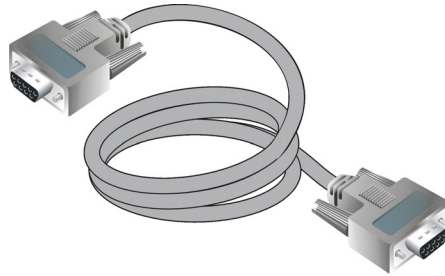

Figure 1-7 Null Modem Cable
- **Null modem cable** - An asynchronous RS-232 null modem cable (Figure 1-7 on page 1-15) is required to configure switch network addresses and acquire event log information through the maintenance port. The cable has nine conductors and DB-9 male and female connectors.